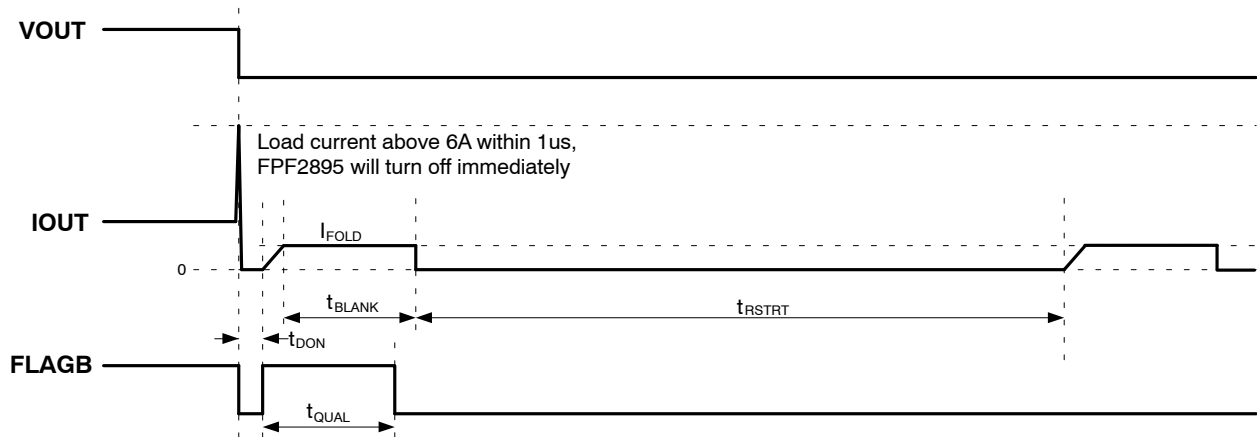

Figure 9. VOUT Hard Short to GND (OC_MODE = HIGH & FLAGB is pulled up with an external VIO)
6. 6 A absolute limit current value. See Figure 9. for protection timing diagram.